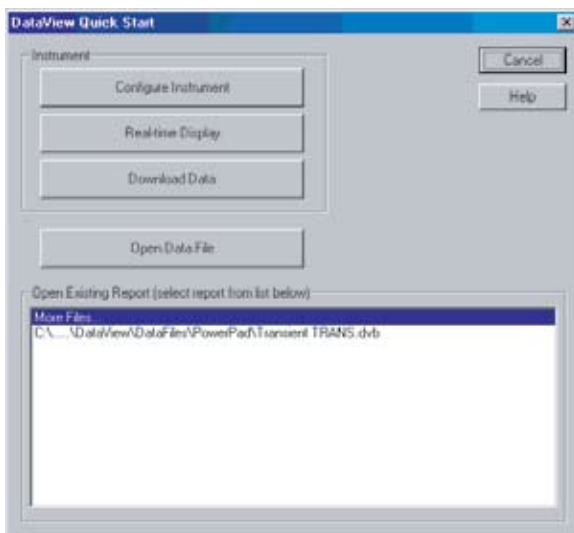

Figure 5-5
- DataView® will open and display the **Quick Start** window (Fig. 5-5).